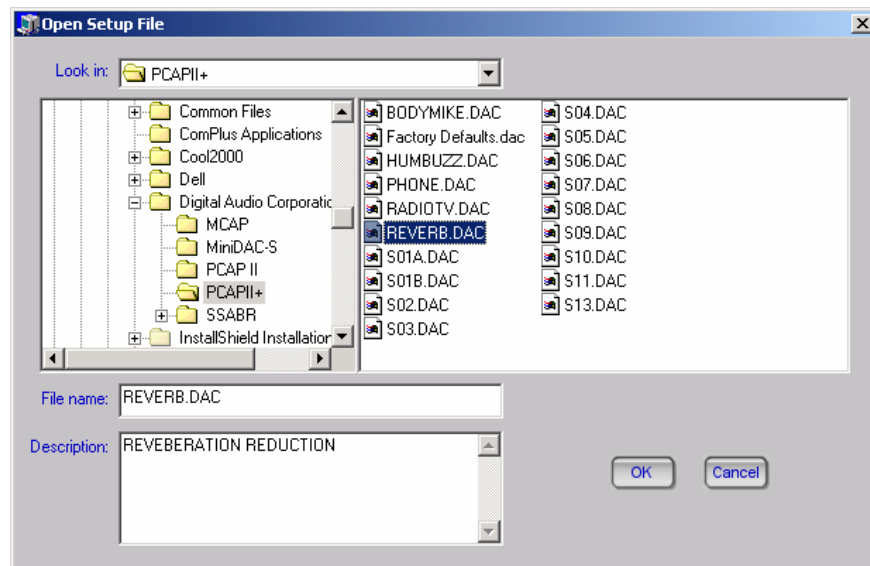

Figure 4-80 Open Setup File Window
1. Click on **File** on the Master Control menu bar. When the pulldown menu appears, click on **Open Setup File**. This will cause the following window (Figure 4-80) to appear: